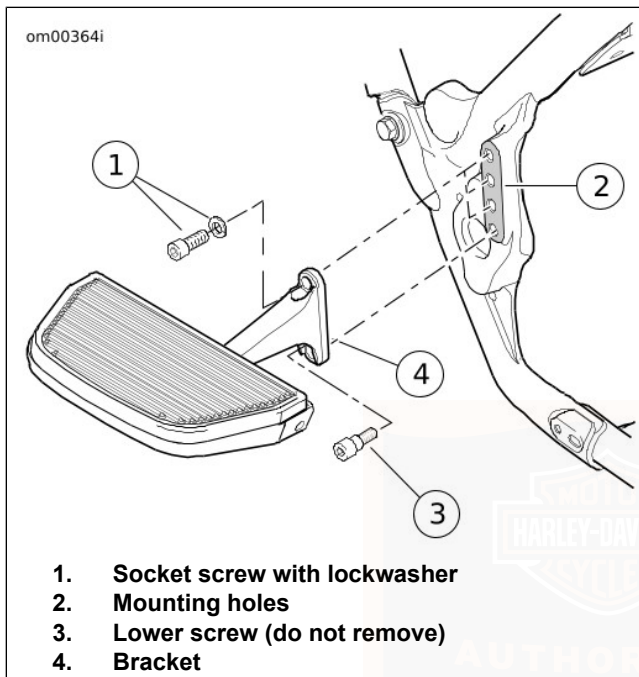

Figure 22. Passenger Footboard
1. See Figure 22. Remove socket screw with lockwasher (1) from top of footboard bracket (3).